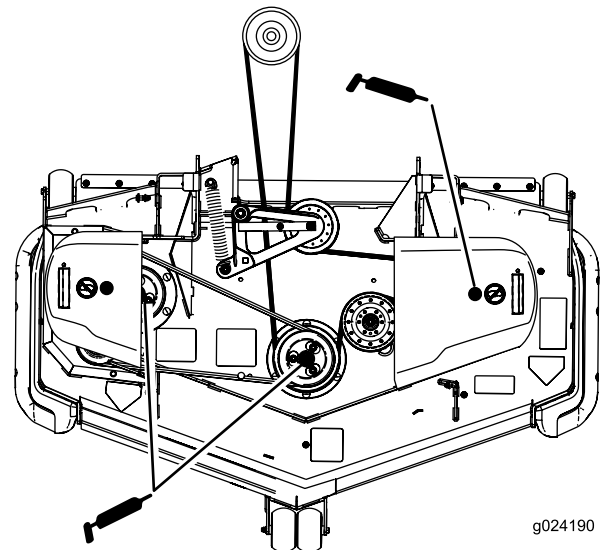

Figure 37
3. Grease the mower deck idler pulley pivot until grease come out the bottom (Figure 37).
4. Grease the three spindle bearings until grease comes out the lower seals (Figure 37).
6. Grease the drive-belt idler arm (Figure 37).